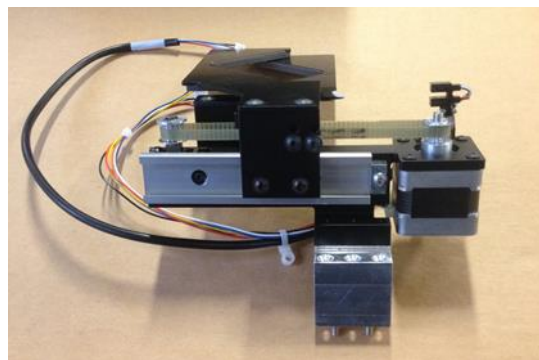

Fig 4
6. Take off the Iris unit. Fig. 4: